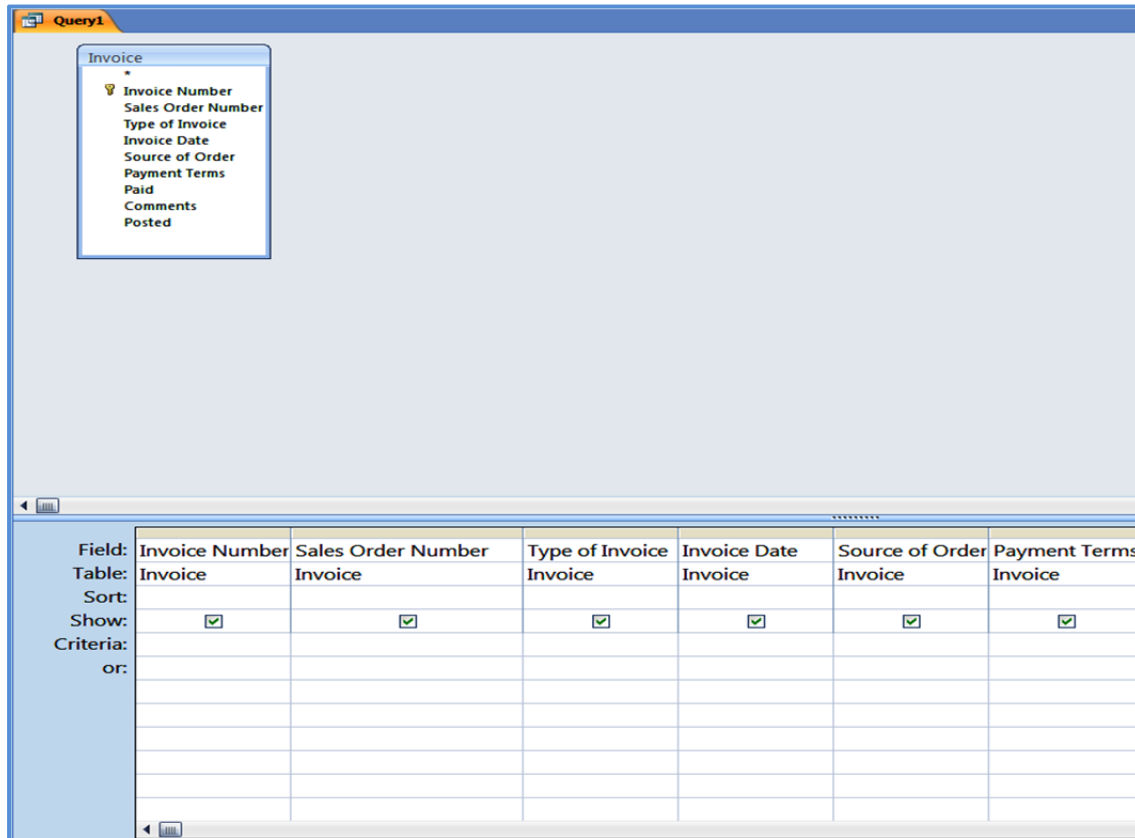

Fig. 1.2.4: Drag the required columns
5. Select the fields *Invoice Number*, *Sales Order Number*, *Type of Invoice*, *Invoice Date*, *Source of Order* and *Payment Terms* from table *Invoice* and drag them to the Columns tab as shown in Fig. 1.2.4.